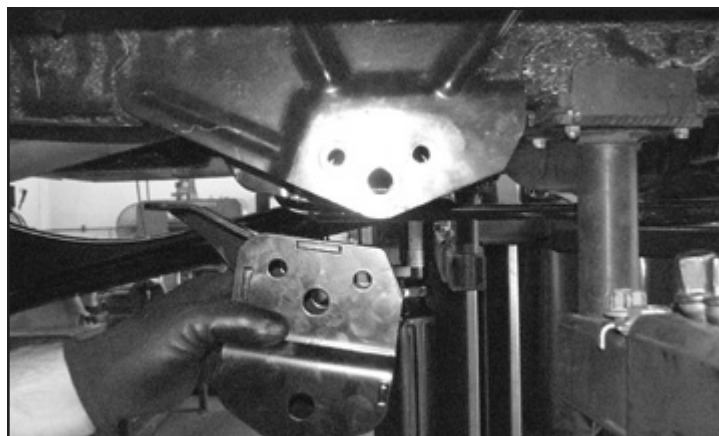

FIGURE 38 - STEP 43
43. Slide the Fabtech radius arm mount into the factory pocket with the frame tab facing the front of the truck. **SEE FIGURE 38**